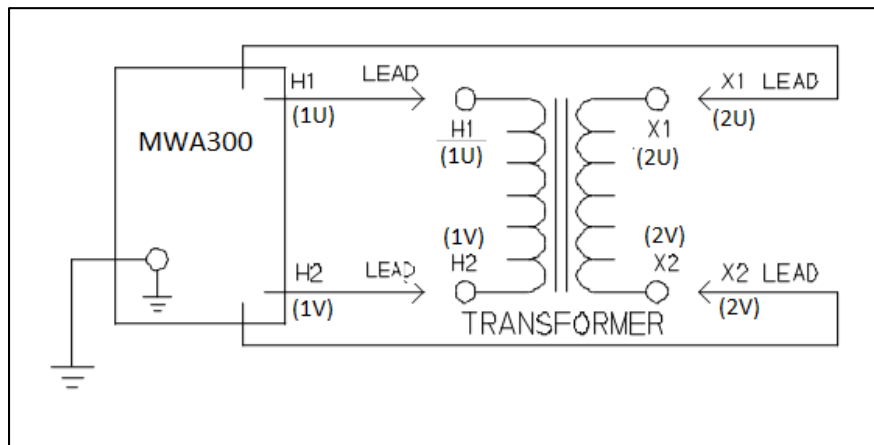
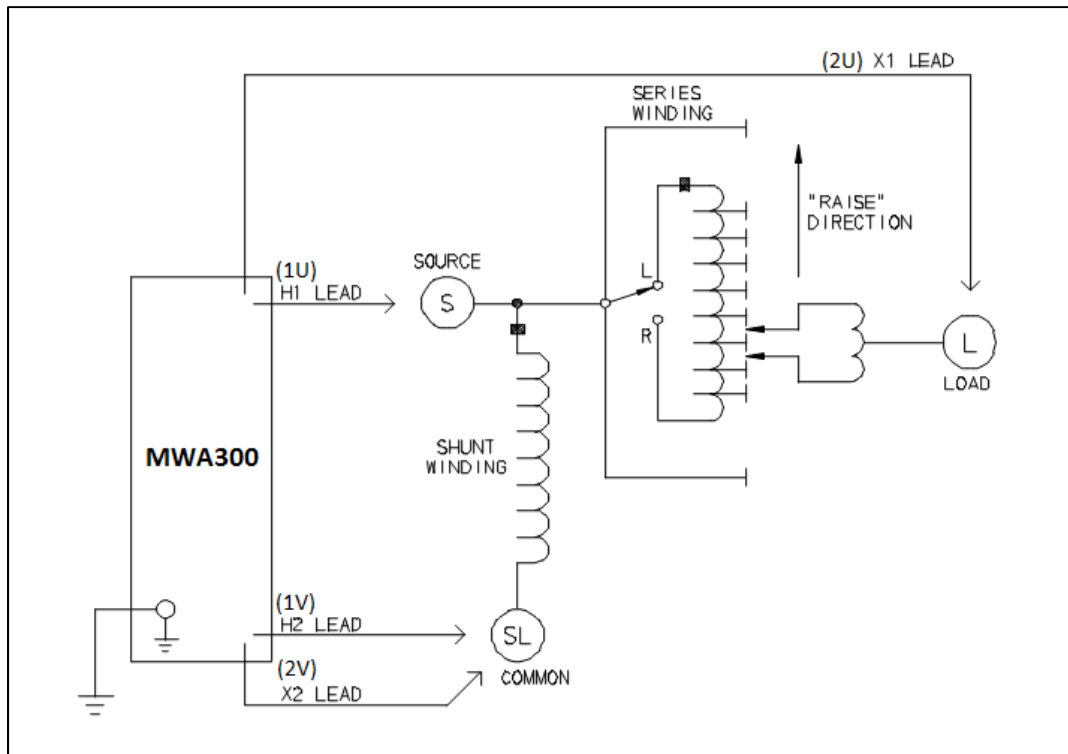

Figure 6-1 Setup for Testing Single-Phase Transformer (Vector Diagram 1P0)
Figure 6-3 Setup for Testing Single-Phase, Type A (Straight Design) Step Voltage Regulator (Vector Diagram **VREG**)
1. Connect the heavy-duty clamps marked H1(1U) and H2(1V) & X1(2U) & X2 (2V) of the test lead to the corresponding (high-voltage & low-voltage windings) terminals of the transformer under test. Figures 6-1 and 6-2 show test setups for single-phase transformers. Figures 6-3 and 6-4 show test setups for regulators. Figure 6-5 shows connections to a Pole Type Transformer with 2 secondary windings.